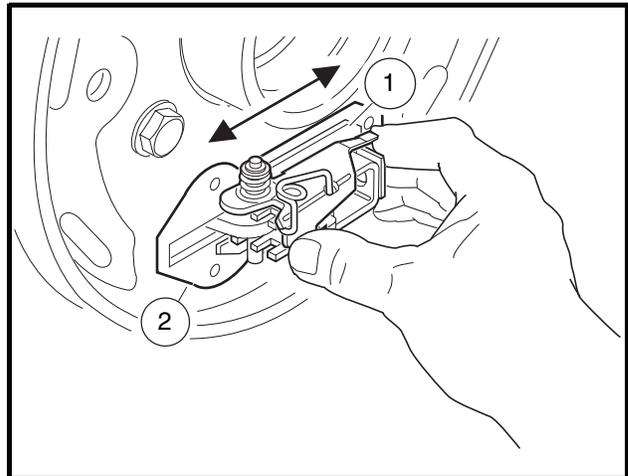

Figure 6-7 Lubricate Slide
3. Lubricate the slide (1) and slide plate (2) with dry moly lubricant (CCI P/N 1012151) on both sides of the backing plate. After lubricating, work the slide back and forth to ensure it slides smoothly and easily (Figure 6-7, Page 6-3). Reinstall rubber boot onto backing plate. **See following WARNING.**